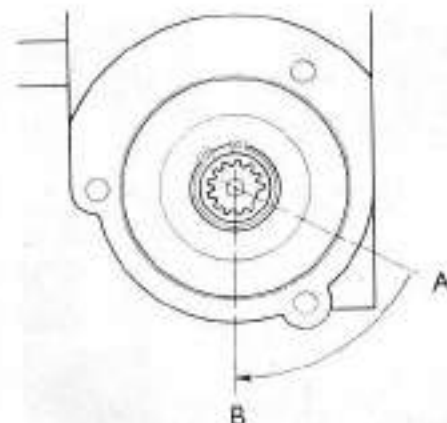

Fig. 60—View showing timing of 3-cylinder diesel injection pump drive gear to camshaft; refer to paragraph 90.
Fig. 61—Exploded view of 3-cylinder diesel injection pump drive gears; refer to Fig. 62 for cross-sectional view and to Fig. 60 for retiming pump drive gear to camshaft.
drop into detent in flywheel through TDC hole in housing. Refer to Fig. 60 and install gear and housing with master spline at "4 o'clock" position (A); as the gear engages with drive gear on camshaft, the master spline should move to "8 o'clock" position (B). Note: If not possible to position gear at exact "8 o'clock" position, use tooth mesh that will position master spline at just after this timing position. With fuel injection pump drive gear properly meshed with camshaft gear, reinstall fuel injection pump as outlined in paragraph 89.